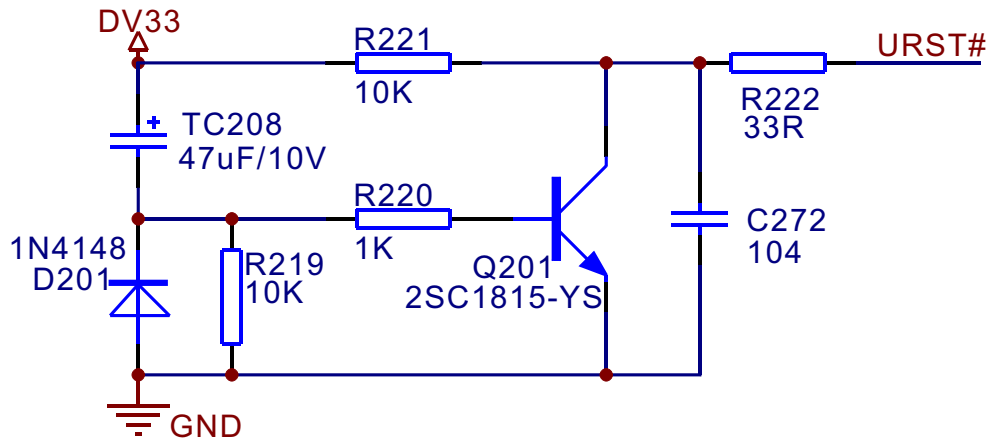

Figure 3.2.9.1 Reset circuit diagram
1. Reset circuit is shown in the figure 3.2.9.1: